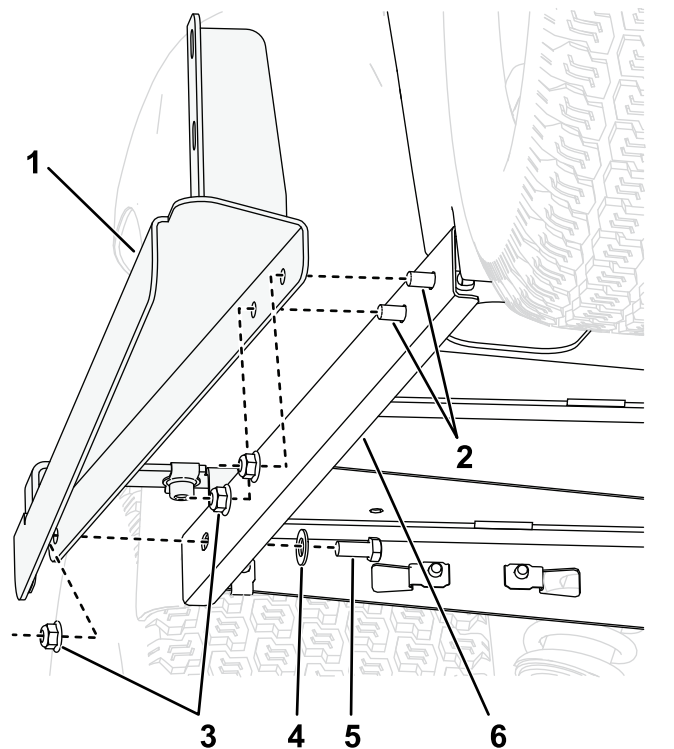

Figure 4
1. Secure the floor mounts to the side of the frame as shown in Figure 4.